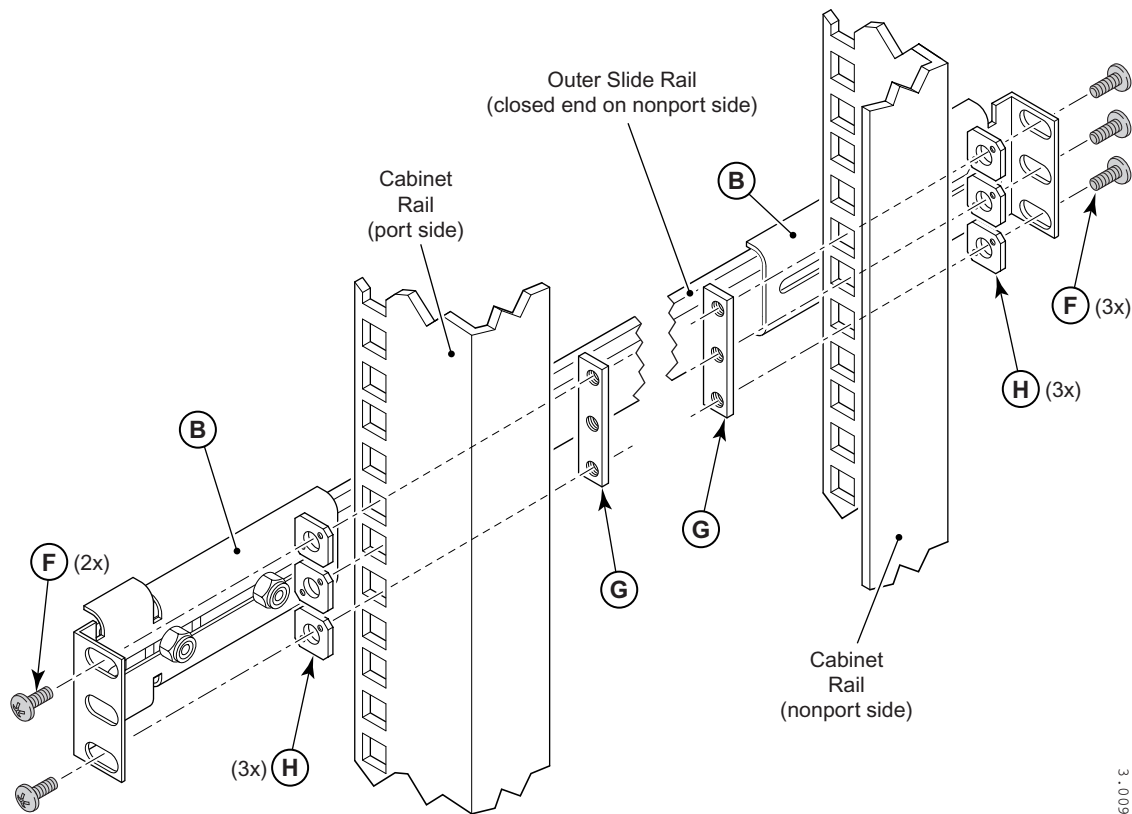

FIGURE 10 Method B for attaching outer slide rails to square-hole cabinet rails
2. Position the outer slide rail inside the cabinet rails with the closed ends of the slide rail toward the non-port side of the cabinet (Figure 10).